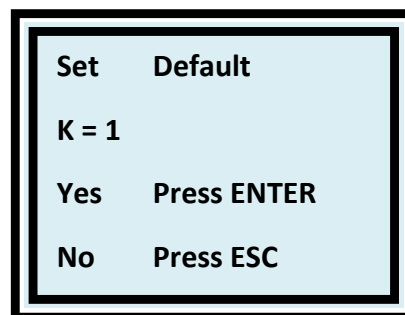

Fig.6 Volume calibration
1.1.2 Go to Main menu then **Press** “UP“ button for Set Default display will show as Fig.6